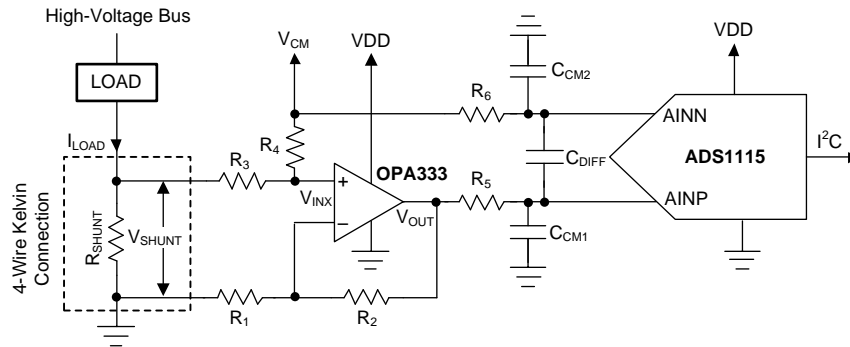

Figure 44. Low-Side Current Shunt Monitoring
Shunt-based, current-measurement solutions are widely used to monitor load currents. Low-side, current-shunt measurements are independent of the bus voltage because the shunt common-mode voltage is near ground. Figure 44 shows an example circuit for a bidirectional, low-side, current-shunt measurement system. The load current is determined by measuring the voltage across the shunt resistor that is amplified and level-shifted by a low-drift operational amplifier, OPA333. The OPA333 output voltage is digitized with ADS1115 and sent to the microcontroller using the I²C interface. This circuit is capable of measuring bidirectional currents flowing through the shunt resistor with great accuracy and precision.
- To level-shift the ground-referenced signal to allow bidirectional current measurements while running off a unipolar supply. The voltage across the shunt resistor, V_{SHUNT} , is level-shifted by a common-mode voltage, V_{CM} , as shown in Figure 44. The level-shifted voltage, V_{INX} , at the noninverting input is given by Equation 5.
A shunt resistor (R_{SHUNT}) is an accurate resistance inserted in series with the load as shown in Figure 44. If the absolute voltage drop across the shunt, $|V_{SHUNT}|$, is a larger percentage of the bus voltage, the voltage drop may reduce the overall efficiency and system performance. If $|V_{SHUNT}|$ is too low, measuring the small voltage drop requires careful design attention and proper selection of the ADC, operation amplifier, and precision resistors. Make sure that the absolute voltage at the shunt terminals does not result in violation of the input common-mode voltage range requirements of the operational amplifier. The power dissipation on the shunt resistor increases the temperature because of the current flowing through it. To minimize the measurement errors due to variation in temperature, select a low-drift shunt resistor. To minimize the measurement gain error, select a shunt resistor with low tolerance value. To remove the errors due to stray ground resistance, use a four-wire Kelvin-connected shunt resistor, as shown in Figure 44.